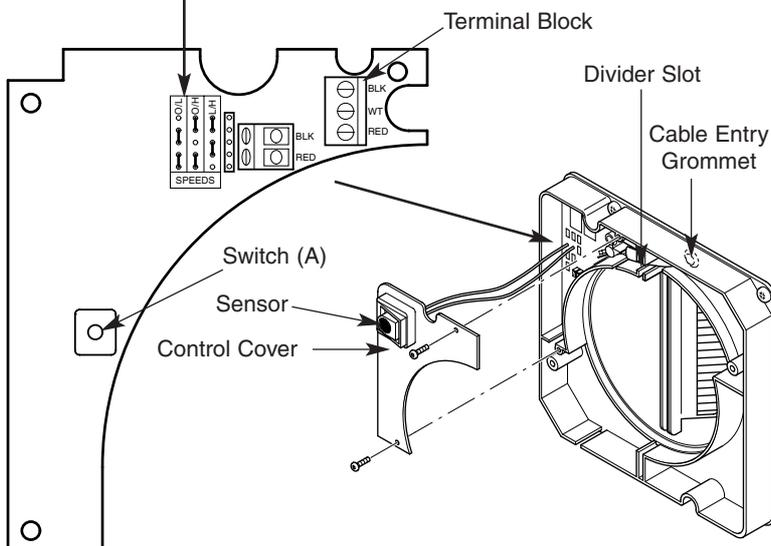

Fig. 24
9. Pass the low voltage cable through the cable entry grommet at the top of the unit (Fig. 24).
11. Carefully remove the control cover by undoing the two retaining screws. Take care not to dislodge the sensor or strain the wires (Fig. 24).
14. Ensure that the low voltage cable is routed through the divider slot (Fig. 24).